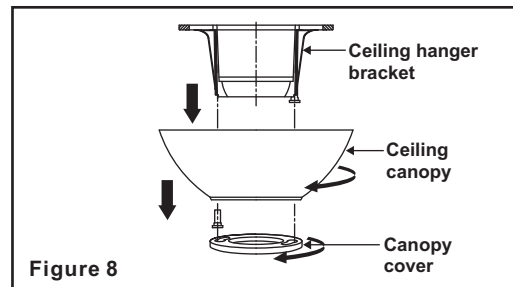

Figure 8
Step 1. Remove the decorative canopy bottom cover from the canopy by turning the cover counter clockwise. (Fig. 8)
Step 2. Remove the mounting bracket from the canopy by removing the 1 of 2 screws from the bottom of the mounting bracket and loosening the other one a half turn from the screw head. Next, turn the canopy counter clockwise to removing the mounting bracket from the canopy. (Fig. 8)